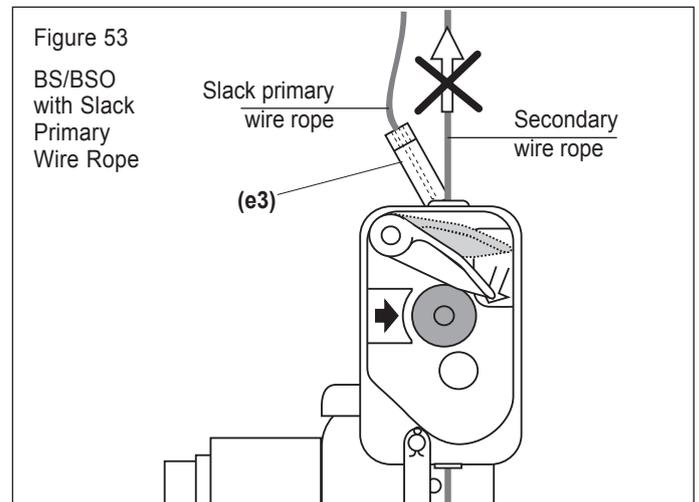

Figure 53
### (4) If the BS/BSO secondary brake has **automatically closed on the secondary wire rope**, i. e. **release lever (e3) is tilted** because of slack primary wire rope (Fig. 53):